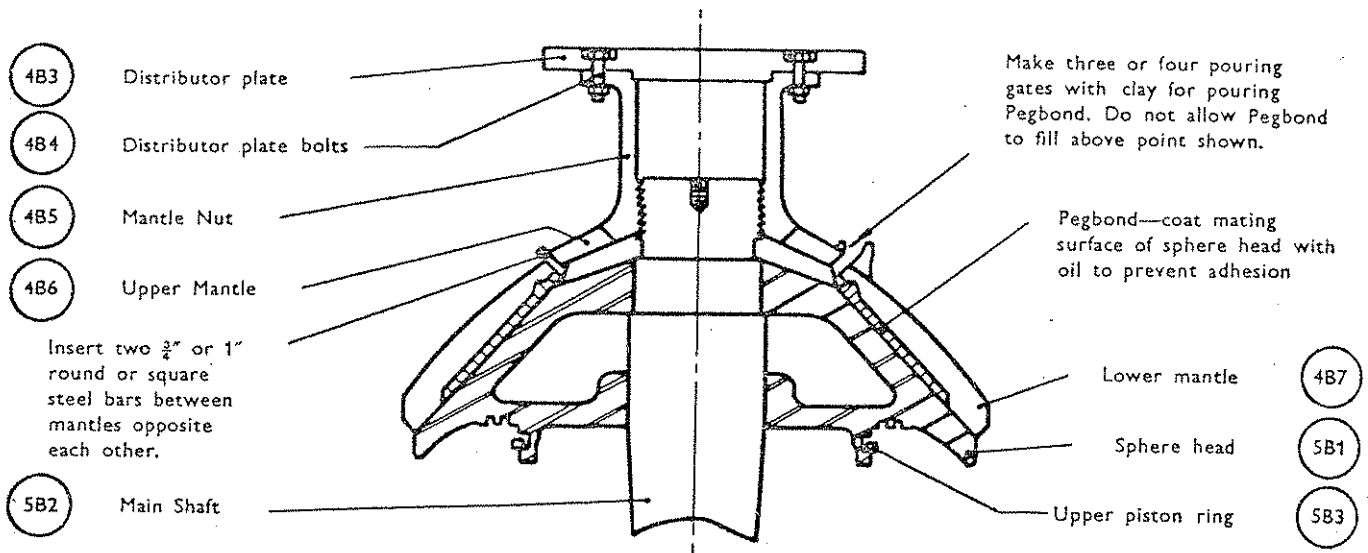

Figure 12
B. Style FC Gyraspheres—See Fig. 12.